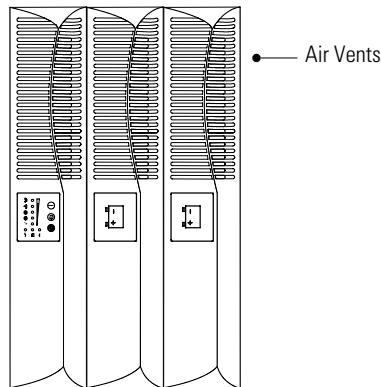

Figure 8. Tower UPS with EBM
6. Carefully position the cabinets upright with the air vents at the top (see Figure 8).